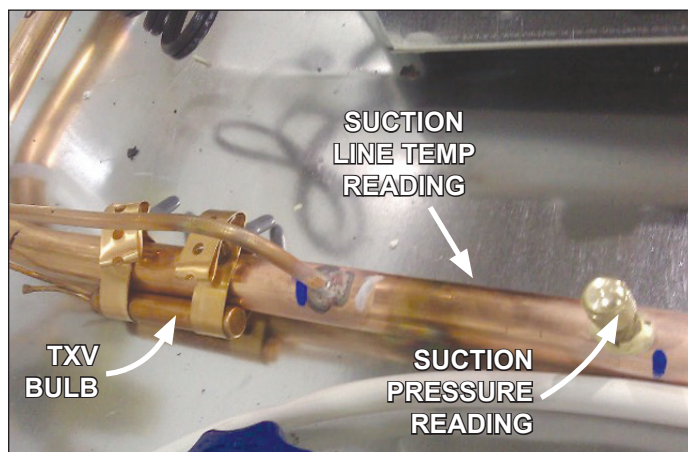

Fig. 15 Obtain pressure and temperature readings
1. Obtain suction pressure from the access port. Obtain the suction line temperature from the area near the TXV bulb at the outlet of the evaporator coil (Fig. 15).